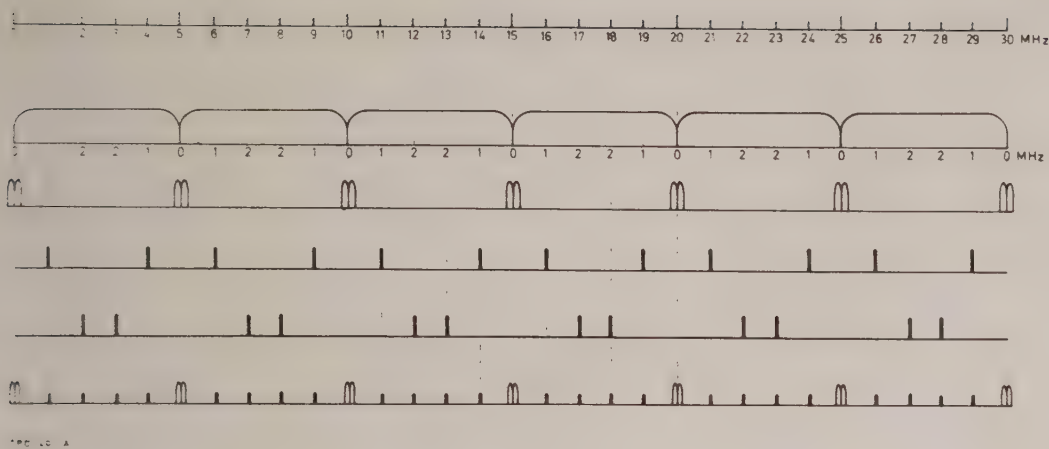

Fig. 3.2 Internal marker generation
In the sweep range 2.5 to 7.5 MHz, for example, the difference signal starts at 2.5 MHz, passes through zero at 5 MHz, and then rises again to 2.5 MHz. Frequencies above 2.5 MHz are rejected by the filter L1 and C8, so that over the 0 to 30 MHz range of the sweep output a recurring frequency cycle is produced reaching a maximum frequency of 2.5 MHz and dropping to zero at each 5 MHz interval (see Fig. 3.2).
- (a) The filter circuit C13 and R19 passes only frequencies below 500 kHz, which occur on either side of each 5 MHz interval; the result is a birdie marker, with a peak on either side of the zero point which is centred on a 5 MHz interval (see Fig. 3.2).